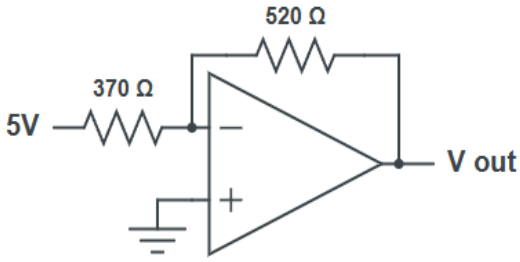

Figure 9
b) What power supply would be suitable for the circuit in Figure 9?